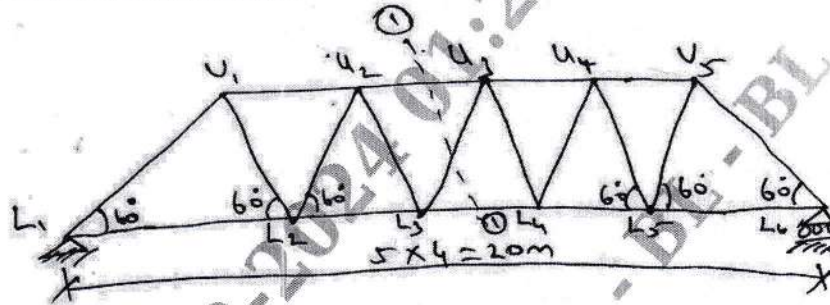

Fig.Q4
- 4 Determine the maximum forces in the members U_2U_3 , L_3U_3 and L_3L_4 of the bridge truss shown in Fig.Q4. If uniformly distributed load of 60 kN/m , longer than the span, traverse along the bottom chord members.